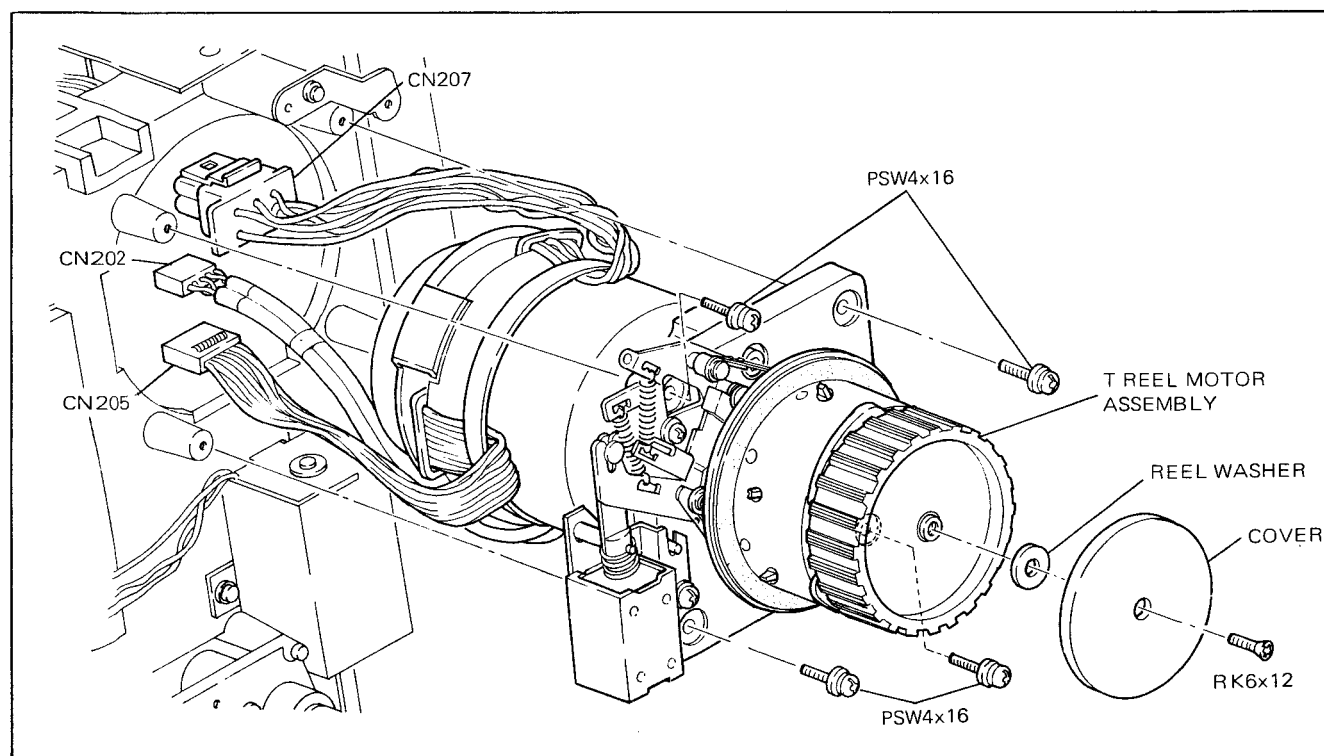

Fig. 6-10. T Reel Motor Assembly Replacement
2. Remove the cover and reel washer (see Fig. 6-10).